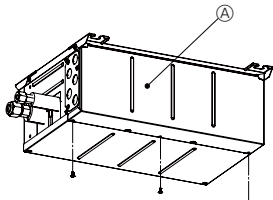
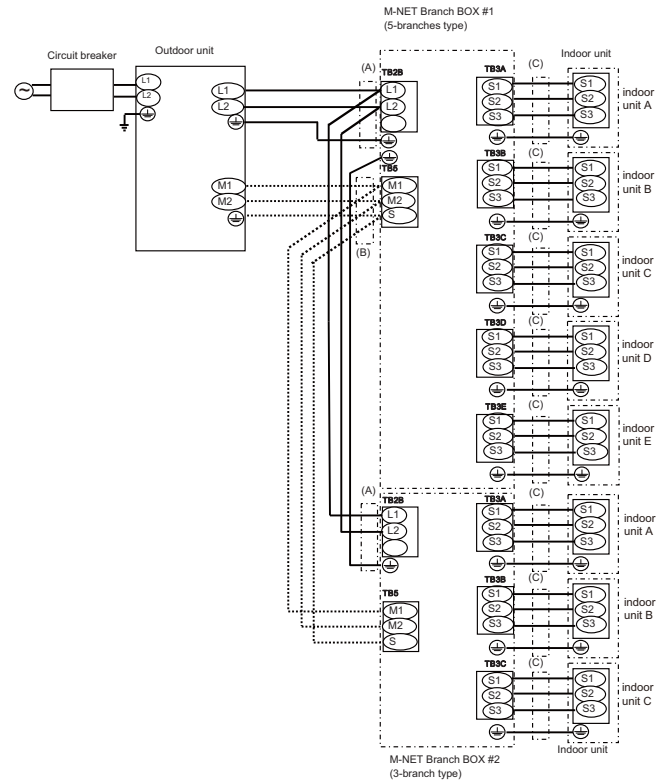

Fig. 8-1
Fig. 8-9
- (1) Remove the electric cover. (Fig. 8-1)
- (2) Remove the conduit cover.
- (3) Pass the wiring into the branch box through the conduit plate and fix with the conduit plate. (Refer to 8.1)
- (4) Firmly connect each wire to the appropriate terminal block. (Fig. 8-9)
- (5) Set dip sw. (Refer to 8.3)
- (6) Replace the electric cover.
### 8.2. External wiring procedure (Fig. 8-9)